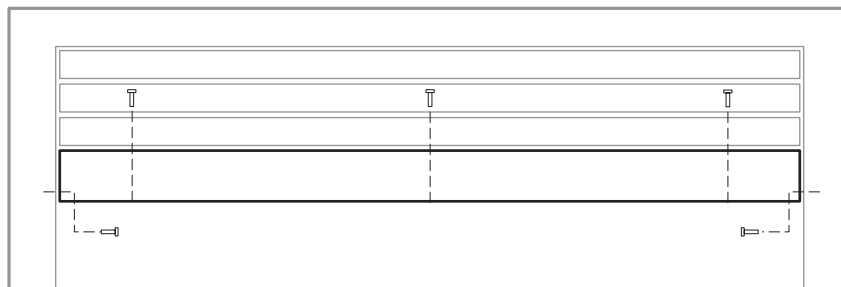

Figure 3 - Installing Canopy
2. Align canopy with the holes in the top frame assembly. See Figure 3.
3. Install the five (5) screws (in owner's manual packaging) which attach the canopy to the top frame assembly. See Figure 3.